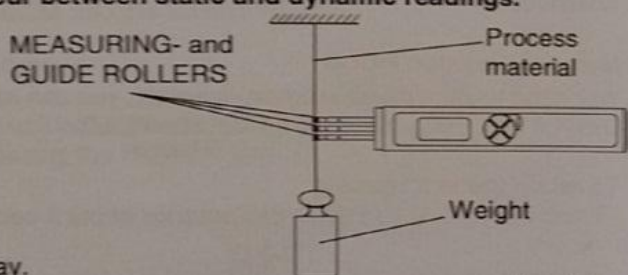

fig. 3.7
- The ETB is factory calibrated for a vertical material path (fig. 3.7).
- Hang a weight which corresponds to the tension to be measured (pay attention to the correct unit of measure cN) from the measured material, vertically, as shown in fig. 3.7.
- The ETB is factory calibrated for a vertical material path (fig. 3.7). Recalibration must also be carried out with a vertical material path.